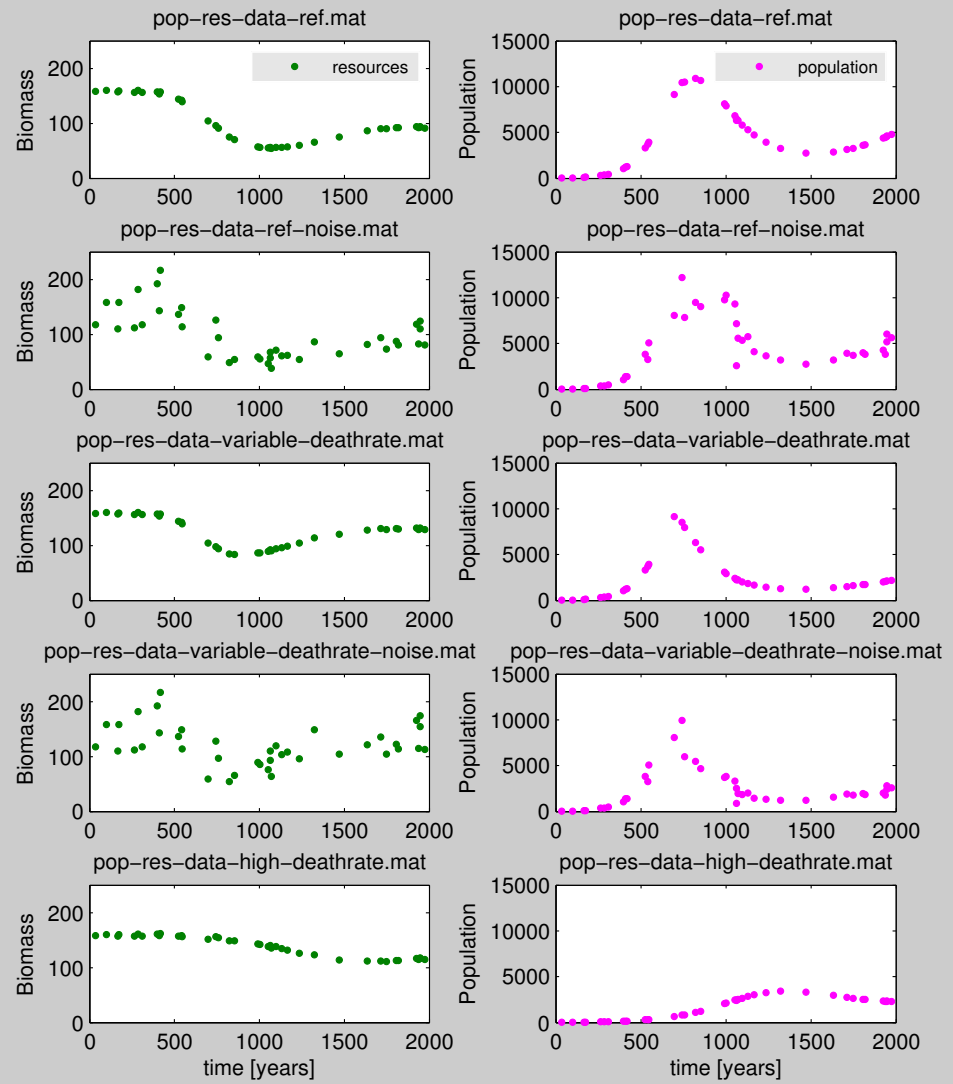

Figure 4.4: Resources-Population plots for the various files.
- 60. Use the MATLAB editor to open ‘dreamWithEasterModel.m’ from ‘./exercises/dream-easter-island/'. Figure 4.4 shows 5 data sets that we have created using the model described above. Experiment with calibrating the `eastermodel` based on either population or resources data from any of the files listed below. Assume an initial Population of 20, and an initial Resources value of 160. To help the interpretation of the results, here are a few pointers on how the data were created: